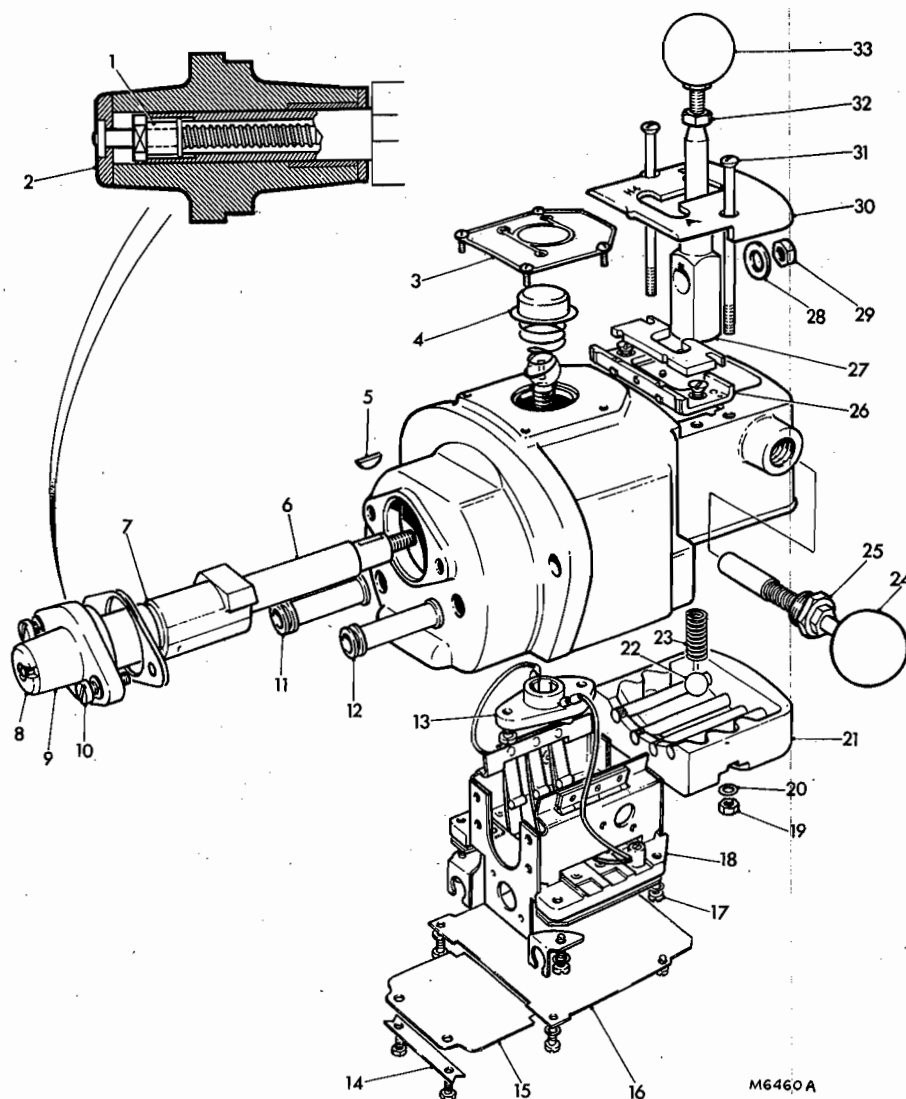

FIG. 3. EXPLODED VIEW OF GEAR SELECTOR SWITCH
3. Remove terminal cover plates (15) and (16), Fig. 3, and locking strip (14). Note and disconnect cable connections. When pulling cables through their guides (11) and (12), take care not to damage the contact unit assembly (18). Remove switch.